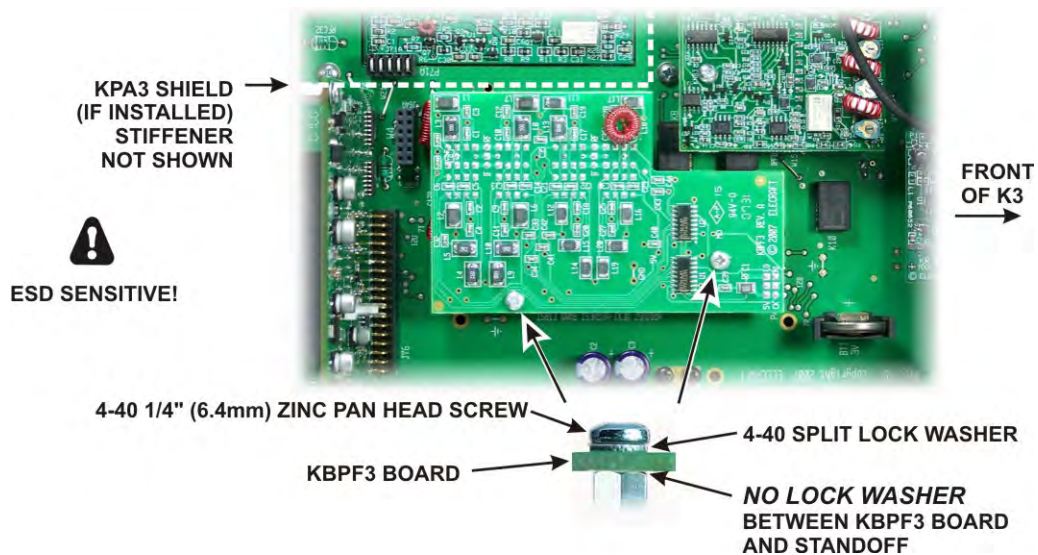

Figure 89. Installing the KBPF3 Option Board.
□ Install the board on the standoffs you installed earlier as shown in Figure 89. The screws and lock washers needed are supplied with your KBPF3 Option kit. There are three connectors on the bottom of the KBPF3 board that must be properly mated to P44A, P44C and P44E on the RF board. Even though the connectors are hard to see if they KPA3 shield is installed, they can be aligned as follows: